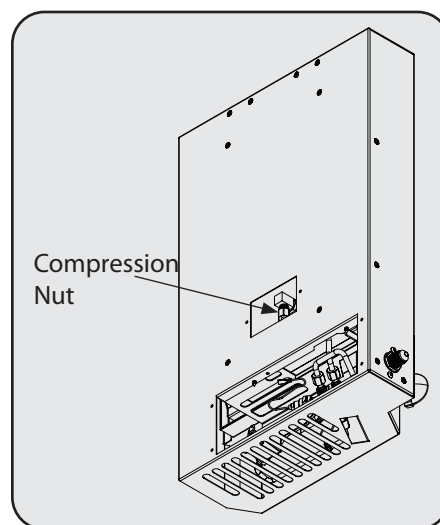

Figure 8
7. Use a 9/16" (or 14 mm) wrench to remove the compression nut connecting the burner gas tube to the brass elbow. See Figure 8. Be sure to use a 1/2" wrench to hold the elbow in place so that the torque on the elbow does not damage the back of the main burner assembly.